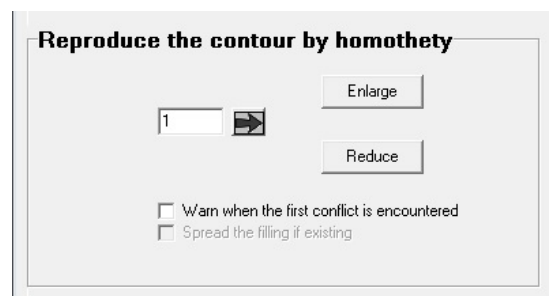

Fig19 : Homothety options
- In the area “**Reproduce the contour by homothety**”, click on "Reduce" with the number “1” in the textbox. (Fig19).